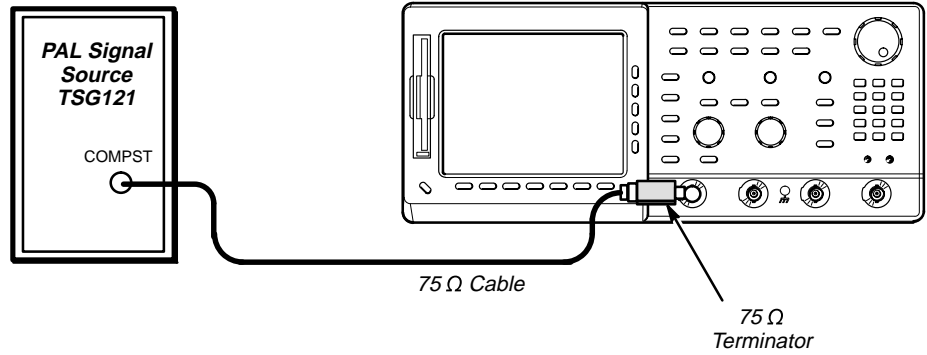

Figure 1-36: Line Count Accuracy Test Hookup
- Connect a composite output signal from the PAL signal source (on the TSG 121 this refers to the signal at the rear labelled **COMPST**) to the CH1 input through a 75 Ω cable and a 75 Ω terminator (See Figure 1-36).